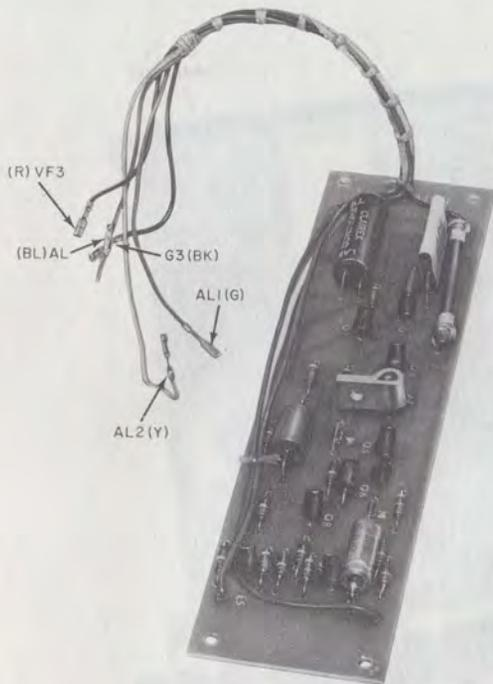

Fig. 4—KS-20721, List 13 Limiter
Limiter, KS-20721, L13 (Fig. 4)
**2.03** The KS-20721, List 3 station coupler consists of a KS-20721, List 1 station coupler with a KS-20721, List 10 hinge assembly and KS-20721, List 13 limiter (Fig. 4) factory installed.
(4) Connect the flexible jumper leads on List 1 board to provide the options called for in Table A by using the connecting information given in Table B.
(5) Plug connecting leads from circuit packs into corresponding terminals on List 1 board per Table B and Fig. 4 and 5. Dress leads to avoid interference with boards and cover and secure leads with cable clamp provided.
(6) Close hinge assembly and fasten the two top corner fasteners.
(7) Replace cover and fasten cover screws.